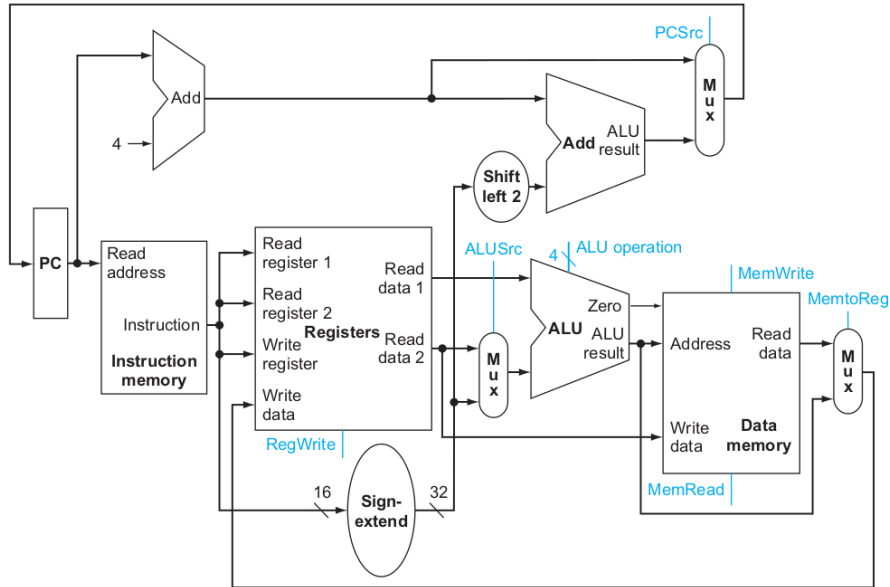

Figure 3: The simple datapath for the core MIPS architecture combines the elements required by different instruction classes.
2. Consider a datapath similar to the one in Figure 3, but for a processor that only has one type of instruction: unconditional PC-relative branch. What would the cycle time be for this datapath? Describe the critical path and the function of each unit.